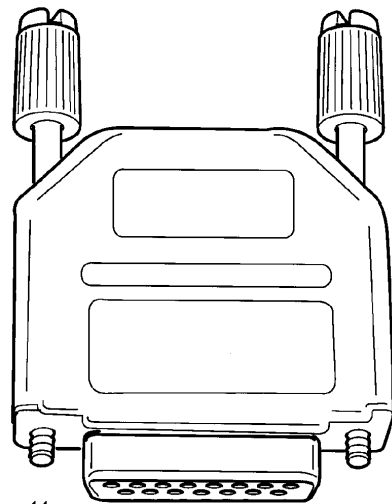
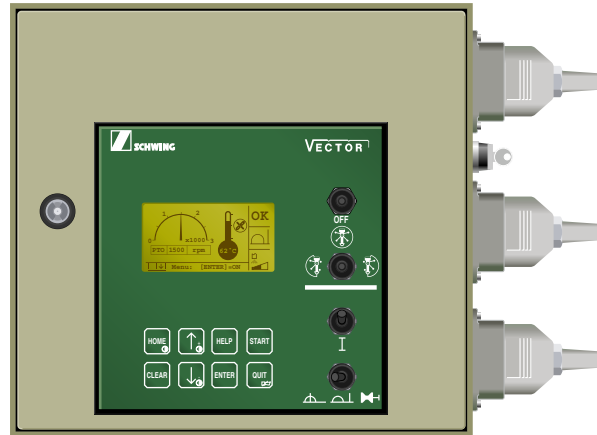

Fig. 1
Fig. 2
- Plug the TEACH key (Fig. 1) into the upper connector on the left side of the VECTOR control cabinet (Figs. 2+3) and secure with the screws.